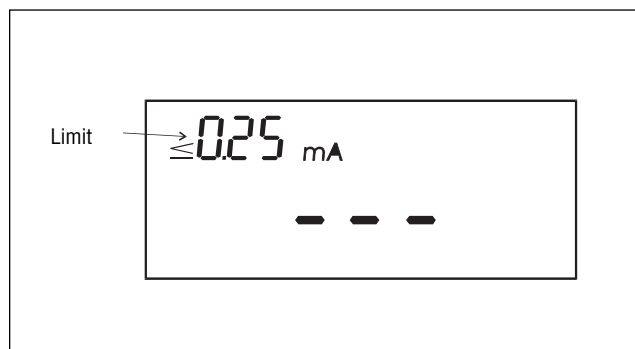

Fig. 7.23
- Connect COMMANDER 2 to UNITEST MACHINEmaster, switch on measurement appliance and set switch Measurement Function to position  $I_{LEAK}$ , (measurement function 11). The following is displayed (Fig. 7.23):